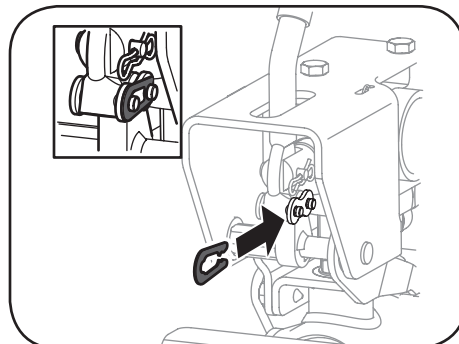

Figure 3-5
6. Install link clip to the handle link. See Figure 3-5.